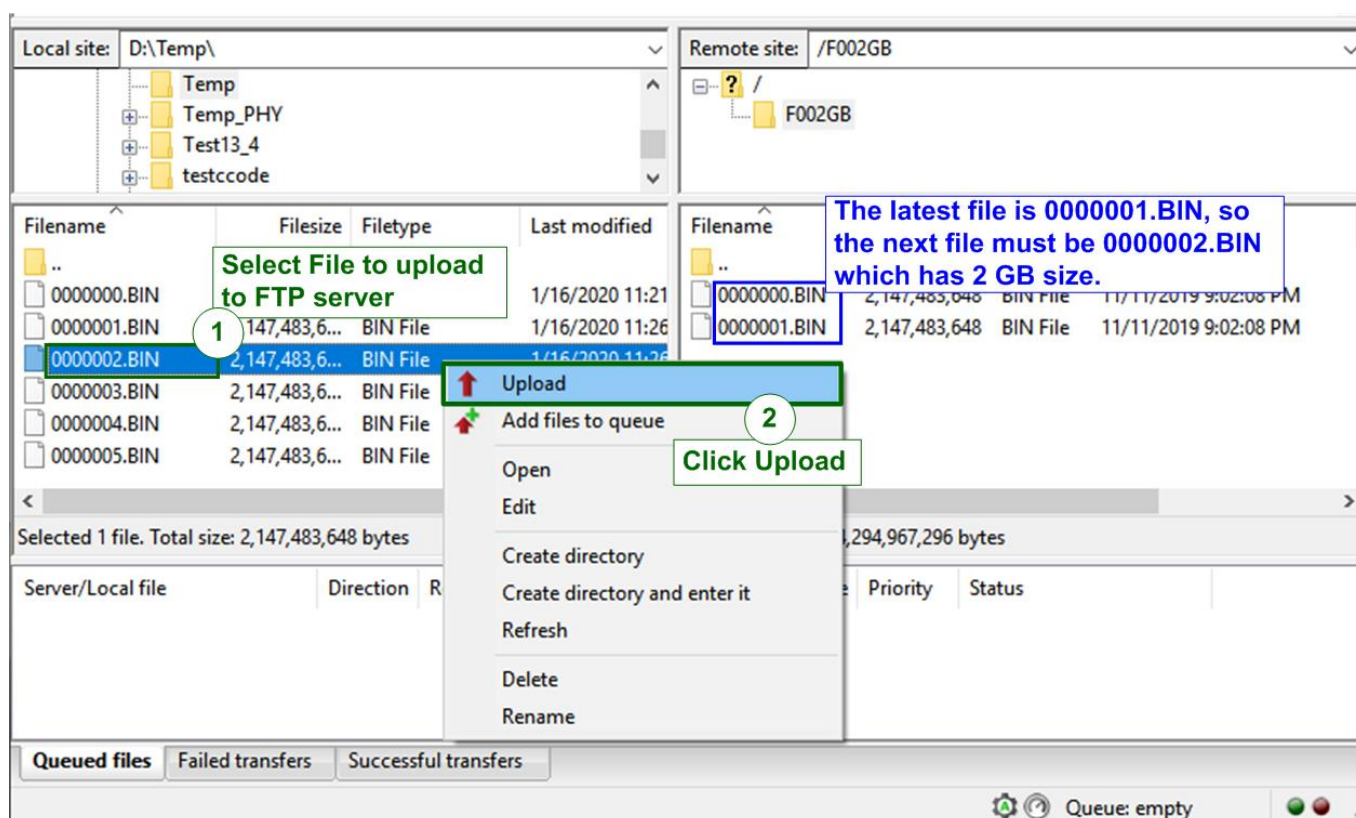

Figure 4-2 Upload file
- a. File name is XXXXXXXX.BIN (X is hex value). The value of uploaded file name must be equal or less than the next value of the latest file in FTP server storage. In Figure 4-2, the latest file is 0000001.BIN, so, the uploaded file must be 0000002.BIN or less.
2. Right-click on the selected file and select "Upload", as shown in Figure 4-2.